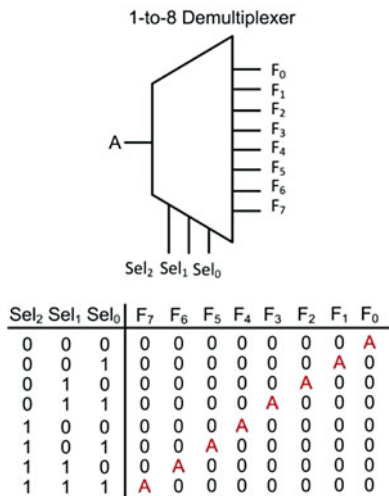

Fig. 2.55
2.2.20 Design a 1-to-8 demultiplexer by hand. The block diagram and truth table for the demultiplexer are given in Fig. 2.55. Give the minimized logic expressions for each output and the full logic diagram for the system.